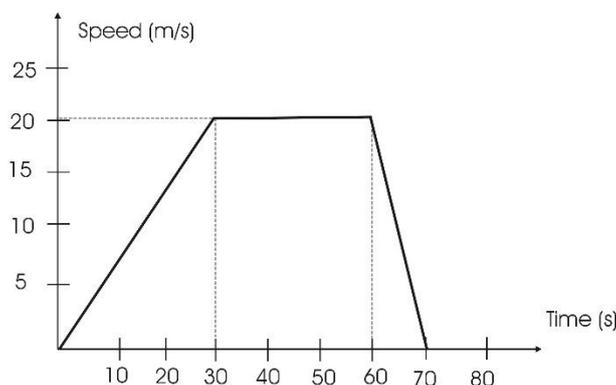

Figure 2: Driving cycle 1
4. Calculate the fuel consumption over the variable speed driving cycle shown in Figure 2.